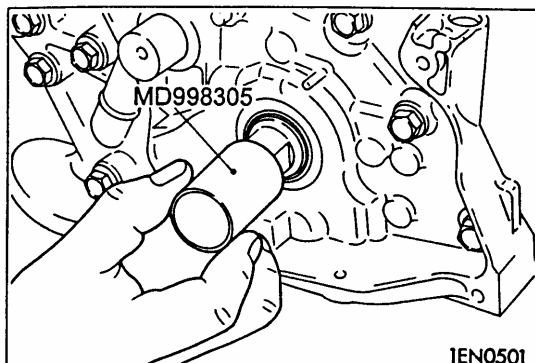

Fig.4-40
(2) FRONT OIL SEAL INSTALLATION
- a Place the special tool on the crankshaft's front end and apply engine oil to the its outer circumference, see Fig.4-40.